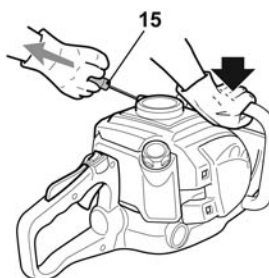

Fig. 11
- > Hold the product firmly with your left hand and pull the recoil starter handle [15] 4 times with your right hand. The engine should not start (Fig. 11)
- > Then pull the starter handle [15] again till the engine starts (Fig. 11).
- > Then pull the starter handle [15] until the engine starts (Fig. 11).